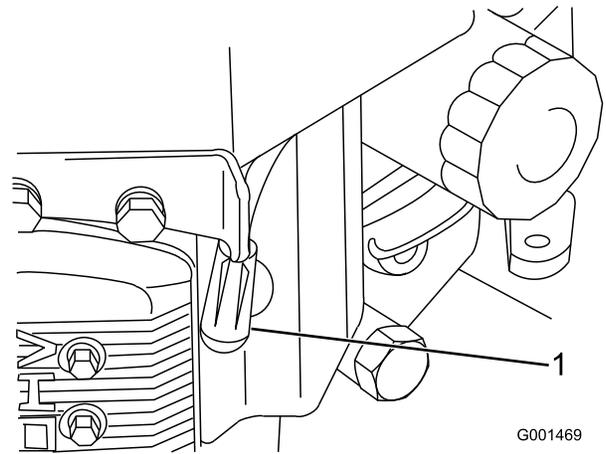

Figure 38
- Disconnect the wire from the spark plug (Figure 38).